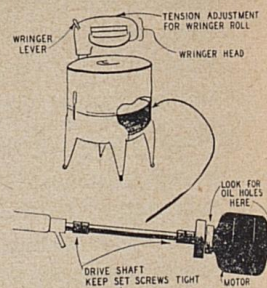

Fig. 55
II. Wringer Does Not Operate Properly (Wringer Type, Fig. 55).
1. **Cause:** Wringer lever not turned completely to "ON" position. Fig. 55.
Remedy: Adjust for correct pressure or tension. Fig. 55. There are other wringer troubles of a mechanical nature that cannot be repaired in the home. The wringer can be easily lifted from the machine and taken for repair to a serviceman, dealer, or manufacturer.
Remedy: Tighten set screws on drive coupling at motor end and agitator shaft end. Fig. 55.
1. **Lubrication:** With most electrically driven washers, lubrication has been provided at the factory for the life of the washer. However, examine the wringer head and motor (Fig. 55) for oil holes. Oil motor monthly, with 2 or 3 drops of electric motor oil. Oil casters frequently.